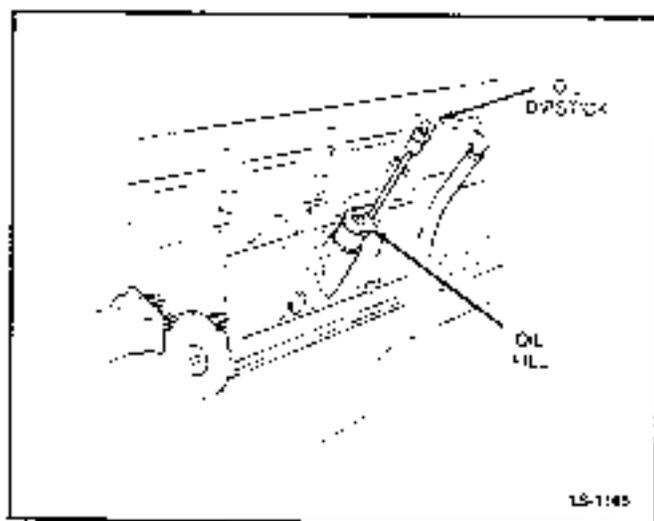

FIGURE 6-3. OIL FILL AND DIPSTICK LOCATION
- 2 Fill crankcase to "L" (low) mark on dipstick (see Figure 6-3) and refer to *Maintenance—Lubrication System* section.